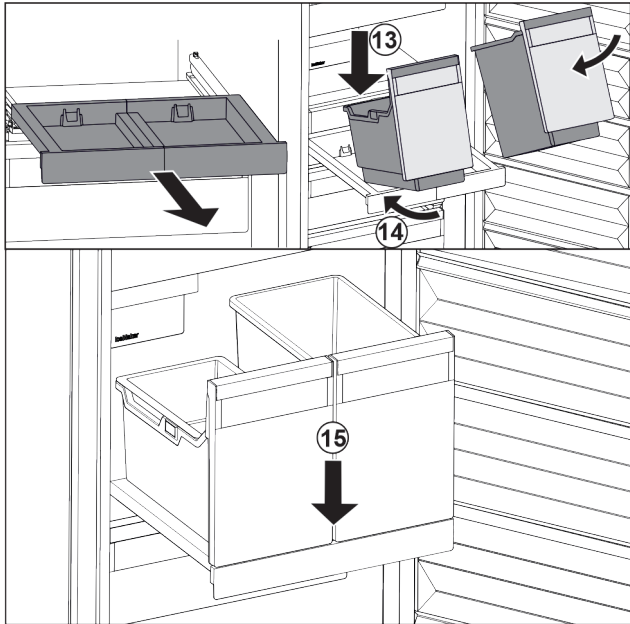

Fig. 36
- ▶ Place the container at an angle on the pull-out board. Fig. 36 (13)
- ▶ Slide in the container at an angle to the back. Fig. 36 (14)
- ▶ Place container at the front. Fig. 36 (15)